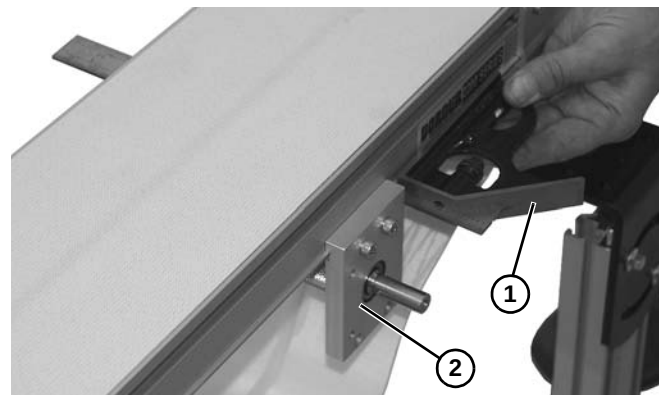

Figure 64
9. Be certain to use a straight edge (**Figure 64, item 1**) across mounting blocks (**Figure 64, item 2**), so blocks are parallel to one another, before tightening hardware.